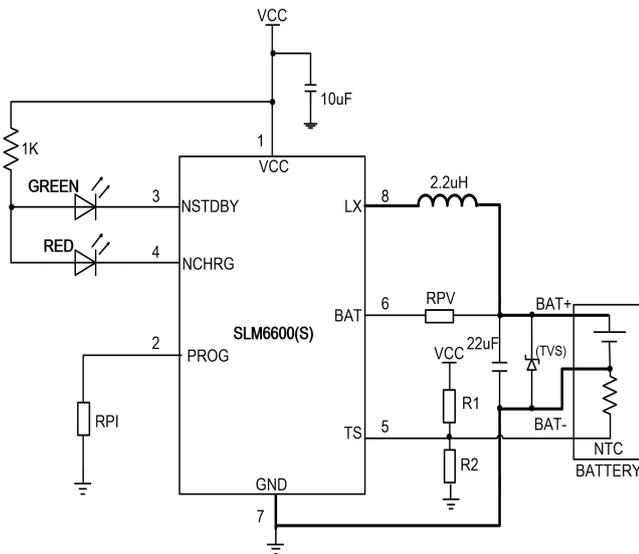

Figure 2
To prevent the damage caused by the very high or very low temperature done to the battery, the SLM6600(S) continuously senses battery temperature by measuring the voltage at TS pin determined by the voltage divider circuit and the battery's internal NTC sensor as shown in Figure 2.